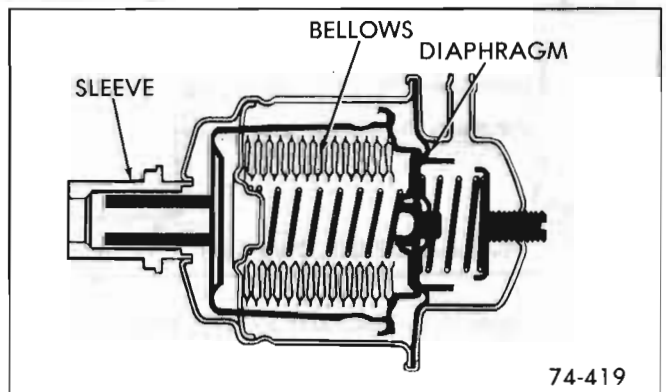

Figure 75-1 - Vacuum Modulator Assembly
The vacuum modulator, See Figure 75-1, has three areas to be checked. If any one of the three (3) areas fail to pass the prescribed checks, the modulator must be replaced.